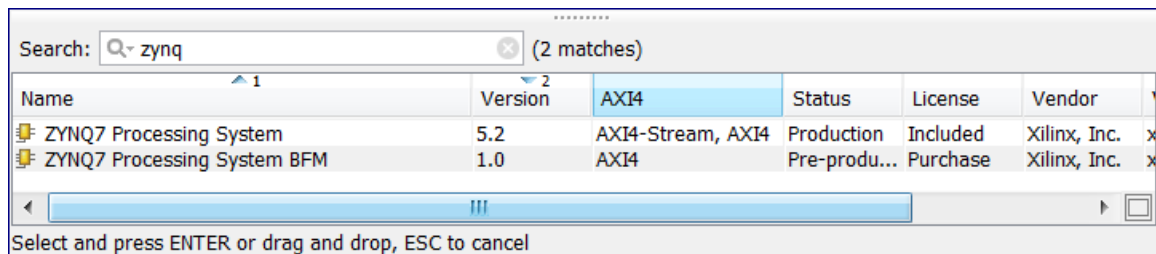

Figure 7: The IP Integrator IP Catalog
5. In the search field, type **zynq** to find the ZYNQ7 Processing System IP, and then press **Enter** on the keyboard (Fig 7).